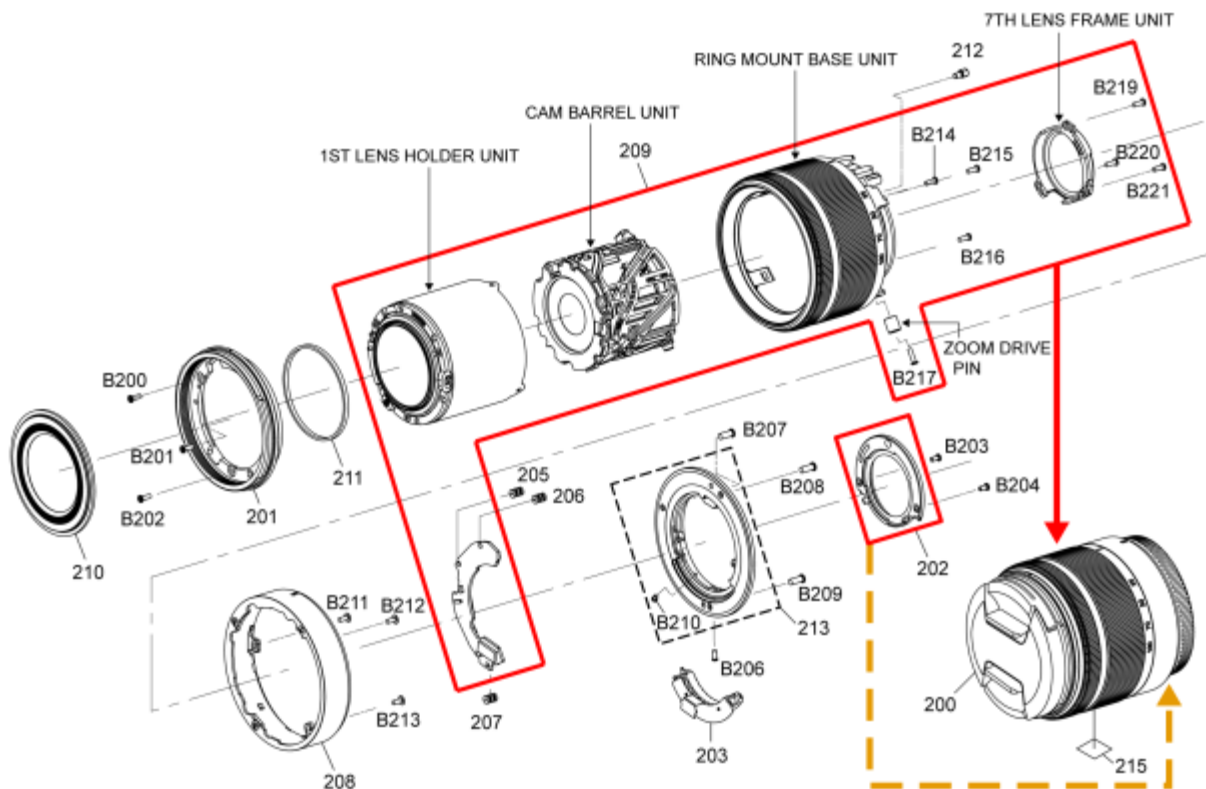

Fig 1-1
3. No adjustment is required when replacing the part mentioned on Fig.1-1. But, when tighten the concerned screws, apply proper torque mentioned on "4. Disassembly and Assembly Instruction" section.